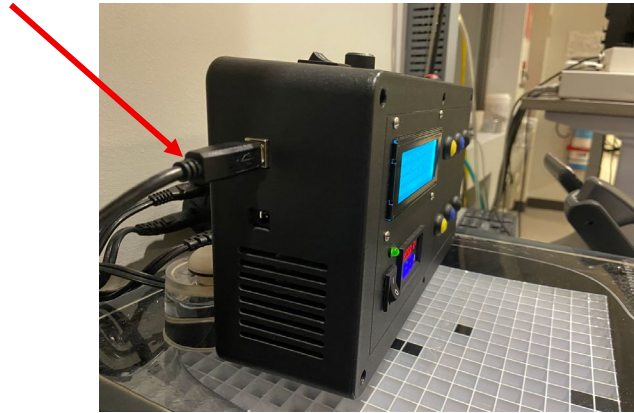

Figure 5
- Use the USB to USB-C adaptor and the USB cable. (Fig 5).